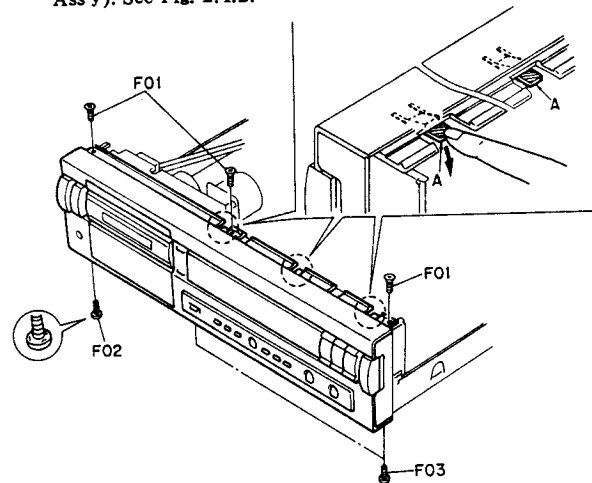
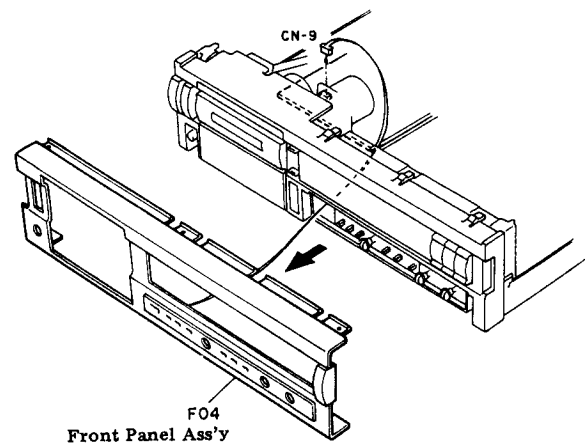

Fig. 2.4.1
Fig. 2.4.2
Refer to Figs. 2.4.1 and 2.4.2.
- (1) Remove the Top Cover Ass'y referring to item 2.1.
- (2) Loosen screws F03 (2 pcs.), F02 (1 pce.) and F03 (2 pcs.). See Fig. 2.4.1.
- (3) Press claws A (3 pcs.) downward to unhook them.
- (4) Disconnect a connector (CN-9) and remove F04 (Front Panel Ass'y). See Fig. 2.4.2.